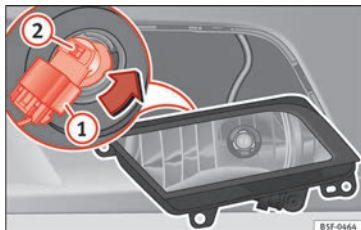

Fig. 97 Front fog light.
- Turn the bulb holder » **Fig. 97 ②** anti-clockwise and pull.
- Remove connector » **Fig. 97 ①** from the bulb.